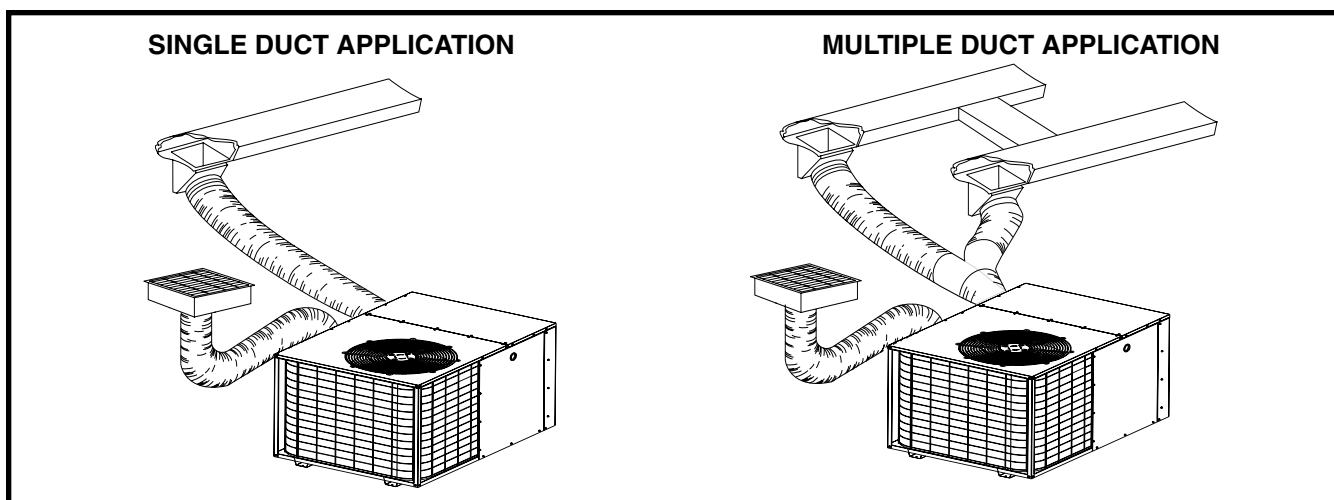

Figure 2. Single & Multiple Duct Applications
- The supply duct system, including the number and type of registers, will have much more effect on the performance of the system than any other factor. The duct must be sufficiently large to conduct an adequate amount of air to each register. See Figure 2 (page 5).